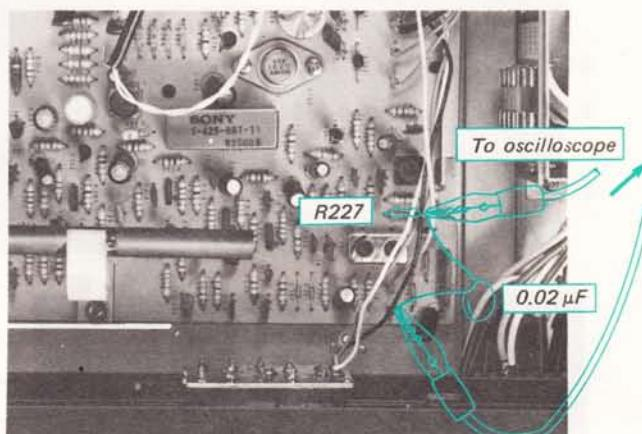

Fig. 3-3. Fm discriminator output connection
1. Connect the input cable of the oscilloscope with alligator clips to R227 and ground on the fm (a-m) front-end/i-f amp/MPX board, and solder a  $0.02\mu F$  capacitor across these clips as shown in Fig. 3-3.